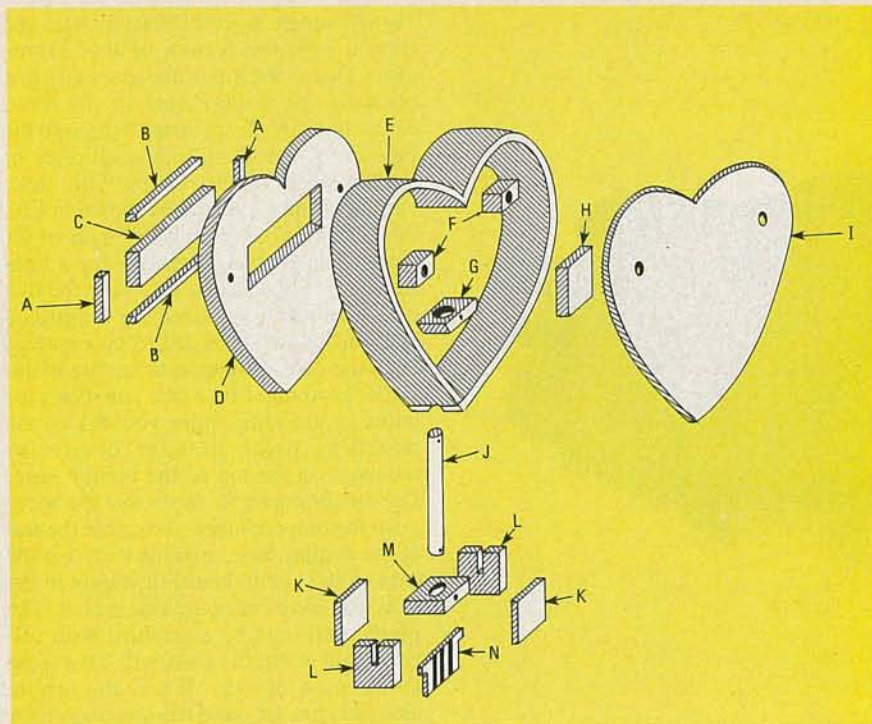

FIG. 20—EXPLODED VIEW of the heart-shaped display case and its connector. The dimensions are given in Table 2.
$\frac{3}{4}$ -inch-square piece of black plastic and slide it onto the bottom of the chrome pipe. That is the top of the assembly that connects the display case to the base. Route the wires from board 5 through the pipe and solder them to a small piece of double-sided circuit board with three "fingers" on each side as shown in Fig. 20. Cut the wires from board 5 about six inches longer than necessary for a tight fit; they will be pulled up inside the display case when the assembly is finished and will allow the board to be removed from the case without your having to unsolder anything. Make sure you solder the wires in the same order you did on the matching piece of edge connector mounted on the top of the bottom case. Use an ohmmeter to verify that the wires go to the proper places. Assemble the rest of the display base, making sure that the ears on the circuit board fit snugly in the slots you have cut in the side pieces. The plastic parts can be assembled with solvent cement but the slots will have to be filled with epoxy. When the whole assembly has set, sand it down smooth for best appearance.
Display Case Dimensions (Fig. 20)
- D: See Fig. 20